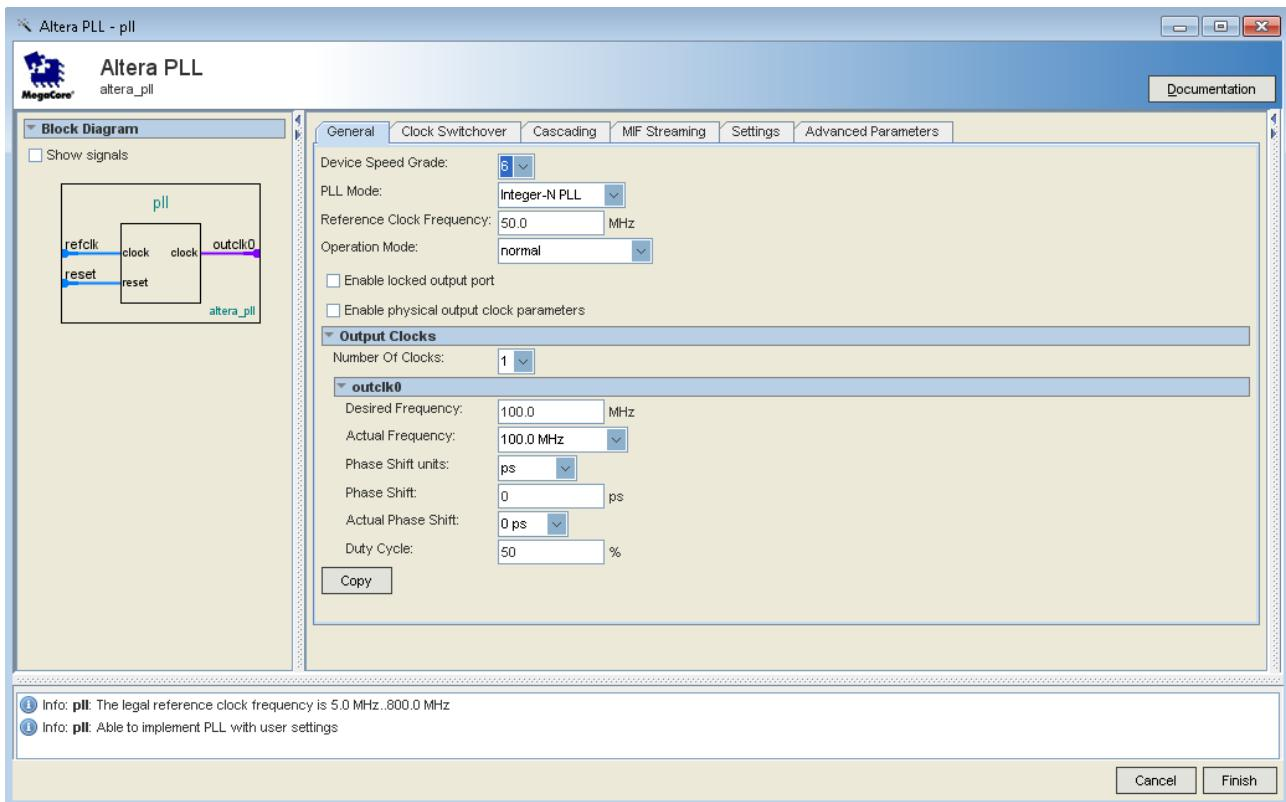

Figure 3-11 MegaWizard Plug-In Manager Selections
6. Turn off the Enable locked output port option on MegaWizard . As you turn it off, pin disappear from the PLL block's graphical preview. See **Figure 3-11** for an example.